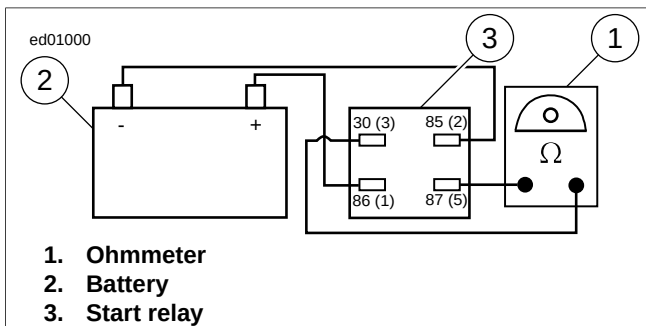

Figure 1-5. Start Relay Test
2. See Figure 1-5. The start relay can be tested using the motorcycle's 12 volt battery and a multimeter.
- b. To energize relay, connect the "85"(2) and relay terminal "86"(1) to the positive battery terminal.
- c. Check for continuity between the 30 (3) and 87 (5) terminals. A good relay shows continuity (continuity tester lamp "on" or a zero ohm reading on the ohmmeter). A malfunctioning relay will not show continuity and must be replaced.